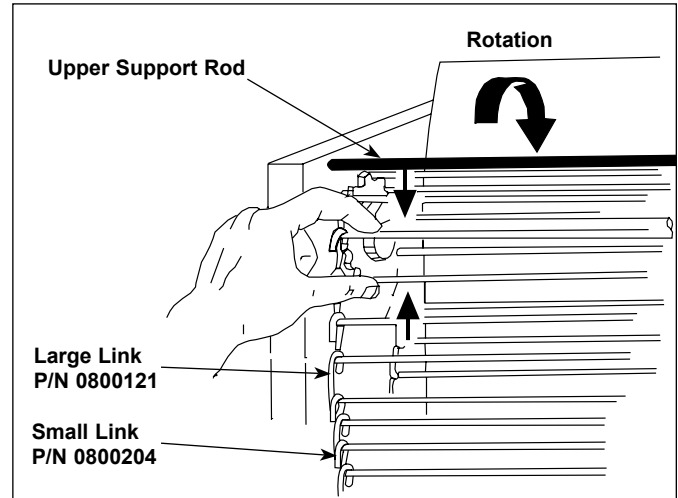

Figure 14. Removing Conveyor Belt
5. Press interlock switch to rotate conveyors (Figure 14). Count to 10, then turn toaster off, and wipe new section of belt wrap. Re-install the front and rear cover assemblies.
2. Disconnect the conveyor belt by squeezing any two links together and unhooking both ends of one link (Figure 14). Remove conveyor belt.
2. Place replacement conveyor belt on top sprockets. Check for correct positioning (Figure 14).